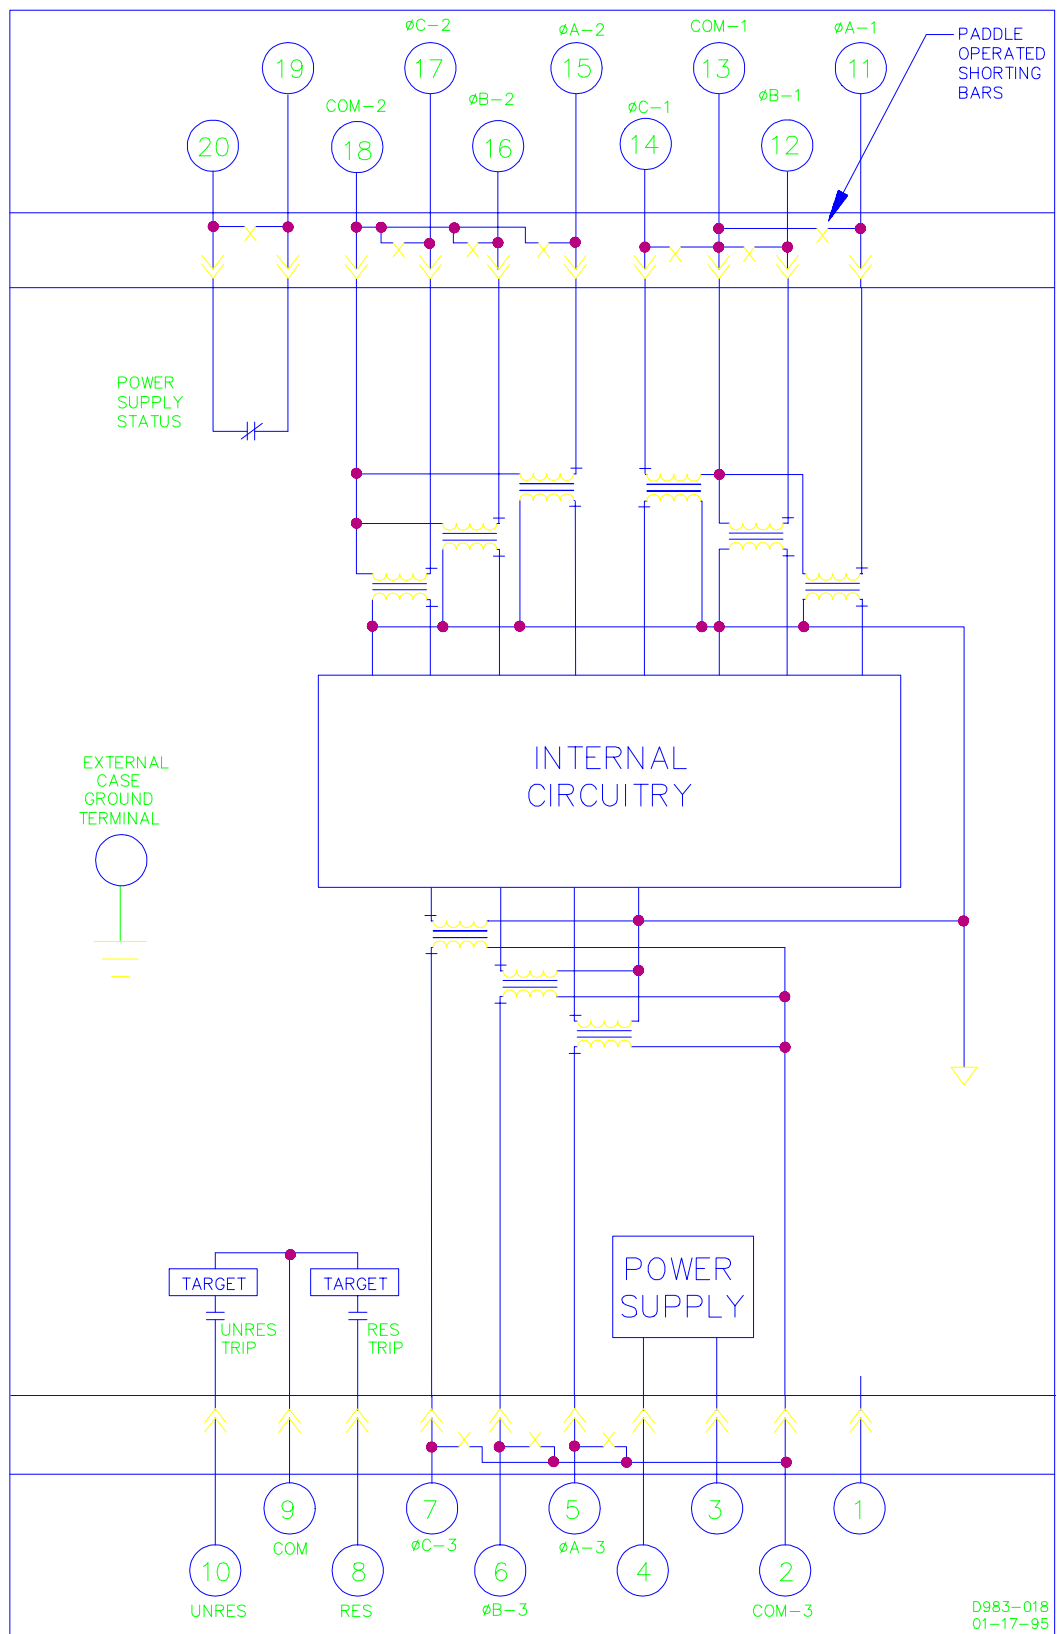

Figure 7-2. Typical Internal Connections, Three-Phase, Sensing Input Type F, Output Option E
- Sensing input type F relays have the normally closed power supply status (PSS) output at terminals 19 and 20 and have shorting bars across the PSS terminals (refer to Figure 7-2).